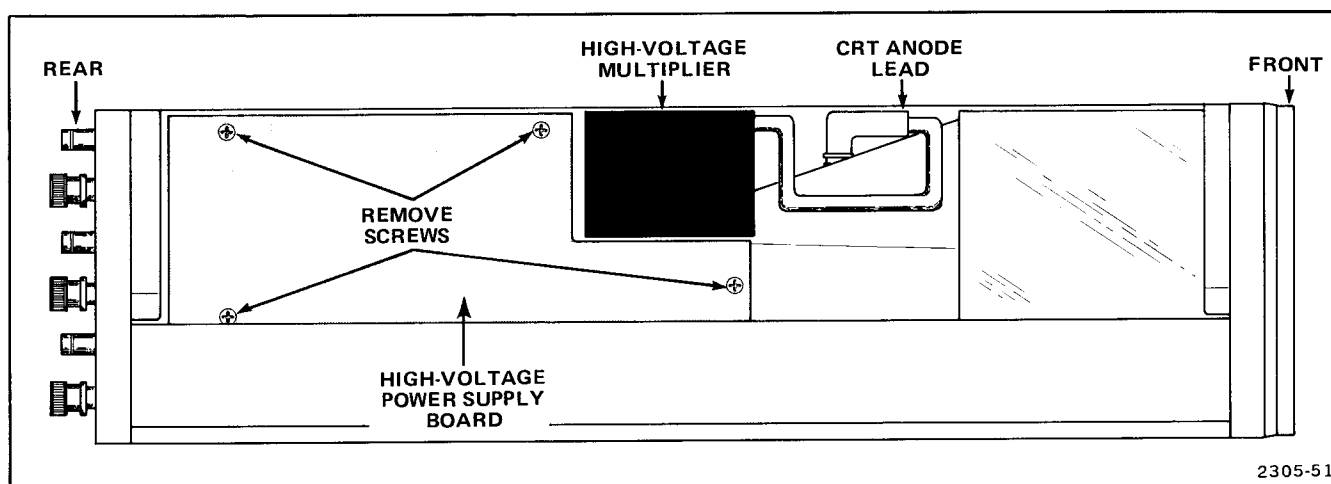

Figure 5-8. Location of screws securing A4 High-Voltage Power Supply board.
Remove the High-Voltage Power Supply board as follows (see Fig. 5-8):
2. Disconnect the crt anode lead from the high-voltage multiplier (see Fig. 5-8). Ground the anode lead to the chassis to dissipate any stored charge remaining in the crt.
8. Remove the four screws shown in Figure 5-8.